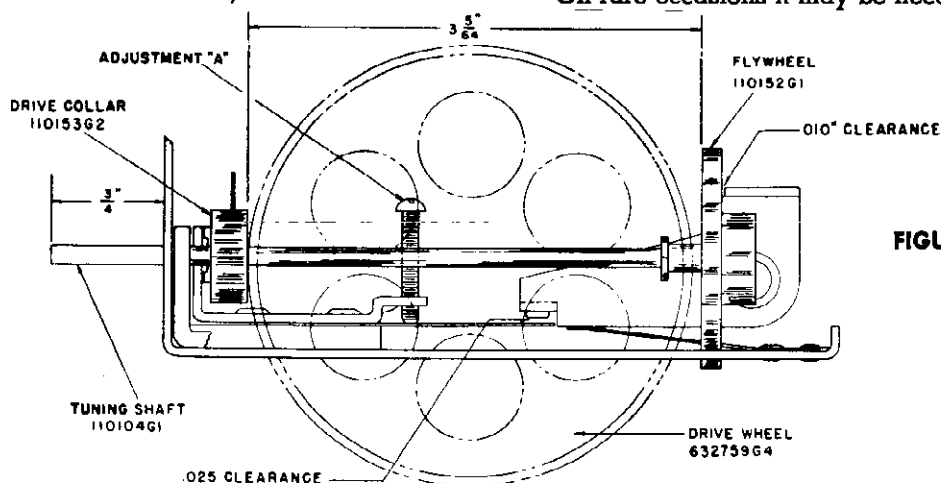
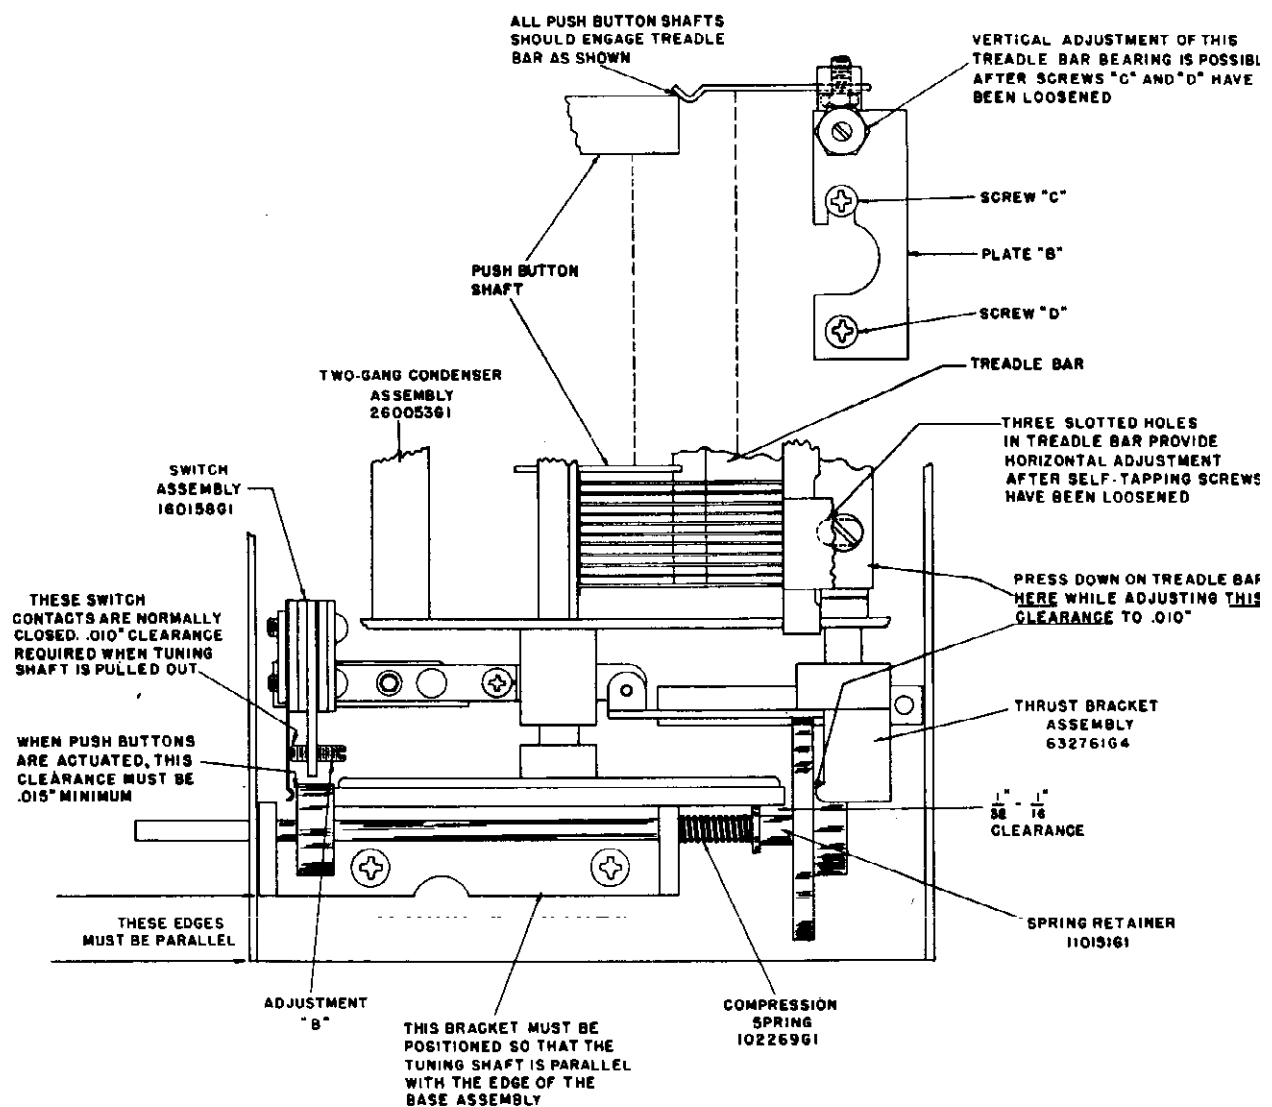

FIGURE 2
FIGURE 3
Whenever any of the mechanical parts in the condenser gang drive assembly require replacement due to rough handling or for any other reason, it is extremely important that clearances and adjustments shown on Figures 2 and 3 are effected; otherwise the tuning mechanism will be sluggish or it may slip during operation.
1. Assemble the Tuning Shaft, Drive Collar, Compression Spring, Spring Retainer and Flywheel in the manner shown on Figure 3. Note that the Tuning Shaft must extend  $\frac{3}{4}$ " from the front of the assembly and that the spacing between the rear of the Drive Collar and the front of the Flywheel must be  $3\frac{5}{64}$ ". Any excess length in the Tuning Shaft may extend beyond the rear of the Flywheel. See Figure 2.
2. The distance between the rubber-tired Drive Wheel and the smaller diameter section of the Spring Retainer must be  $\frac{1}{32}$ " to  $\frac{1}{16}$ " (Figure 3). This adjustment is effected by loosening the two No. 6 Allen set screws in the Drive Wheel hub and sliding the wheel on its shaft until the required clearance is obtained. When the adjustment is completed, tighten the two screws in the hub of the Drive Wheel.
3. While pressing down on the Treadle Bar at the location shown on Figure 3, adjust the Thrust Bracket until the clearance between the rear of the Flywheel and the projection on the Thrust Bracket is .010" as shown on the diagram. To make this adjustment, loosen the two No. 6 Allen set screws (use No. 6 Allen Wrench—Magnavox Part No. 800044G2) in the hub of Thrust Bracket and rotate the bracket until the specified clearance is obtained when the push buttons are NOT actuated. Tighten the two screws securely when the adjustment is completed. Press each push button and check that the Drive Collar is pushed away from the rubber-tired Drive Wheel.
4. Next, adjust the clearance in the muting switch contacts by turning the Phillips-head screw designated Adjustment "B" on Figure 2, until the specified clearance of .025" is obtained (when the push but-
This can usually be accomplished by loosening the two screws designated "C" and "D" on Figure 3, and moving plate "B" in the direction required to correct this condition.